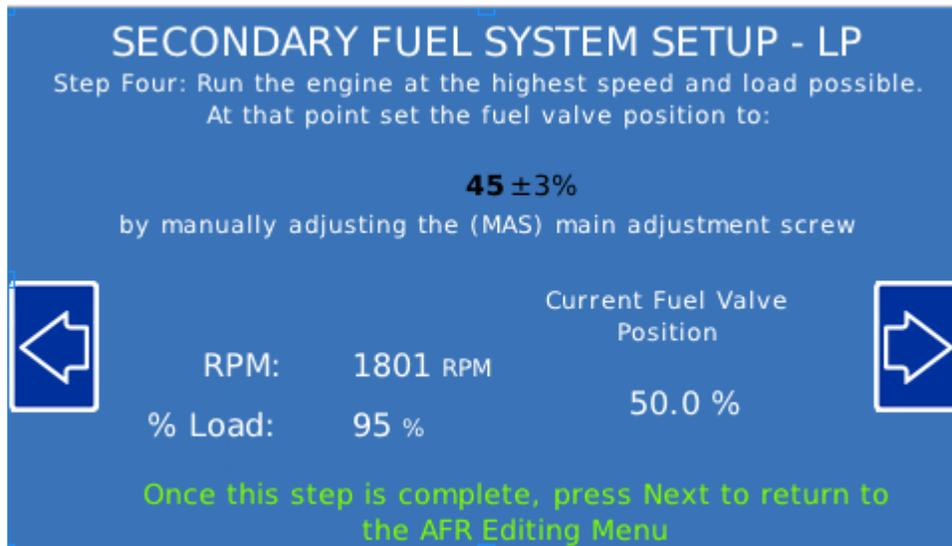
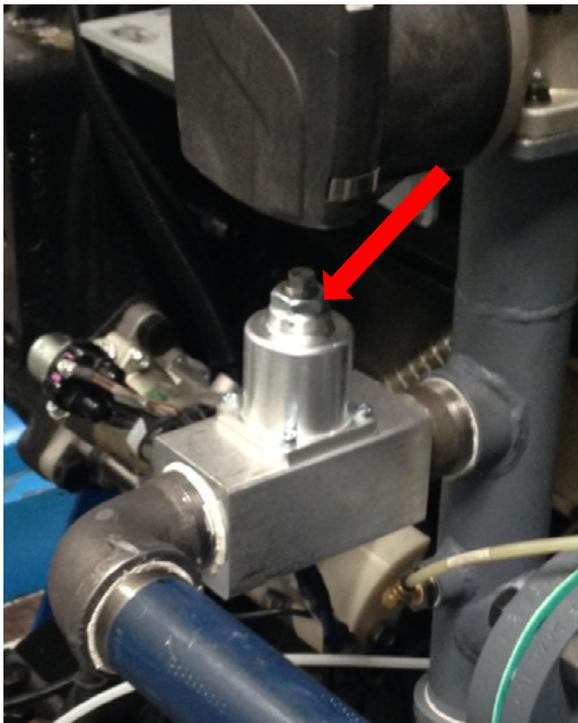

Figure 17-Propane Setup
Figure 18-MAS valve for adjusting propane.
13. The screen in Figure 17 will appear. Adjust the MAS valve (Figure 18) to cause the “Current Fuel Valve Position” to match the desired position.